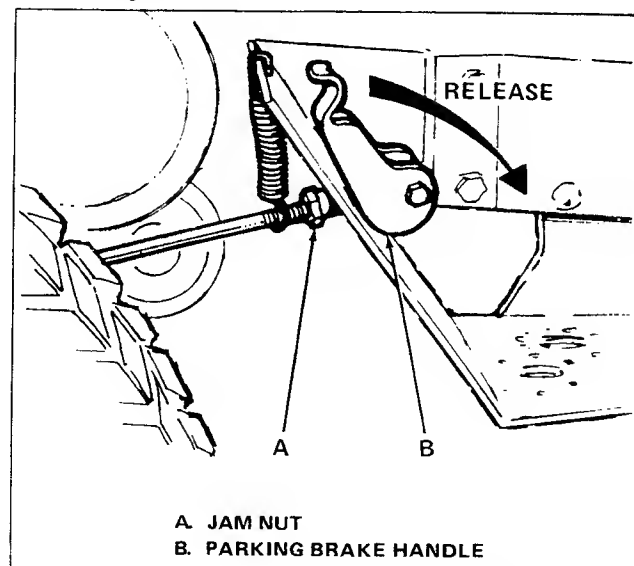

Figure 18. Parking Brake Adjustment
1. Loosen the jam nut (item A, figure 18).